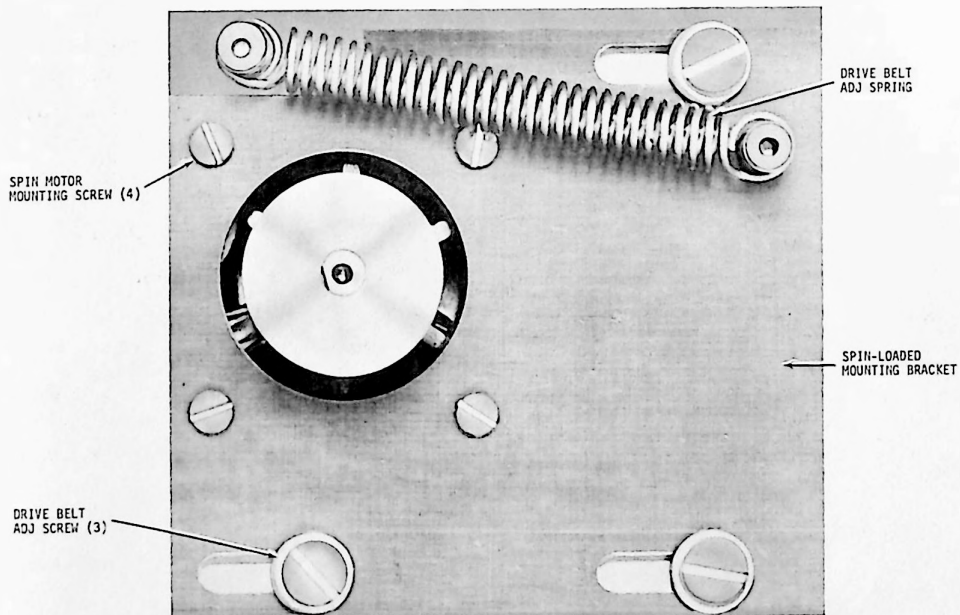

Figure 3-29. Spin Motor Mounting Screws
8. Remove four screws securing the spin motor to the mounting bracket (figure 3-29).
6. Loosen three screws securing the spin motor spring-loaded mounting bracket to chassis (figure 3-29).